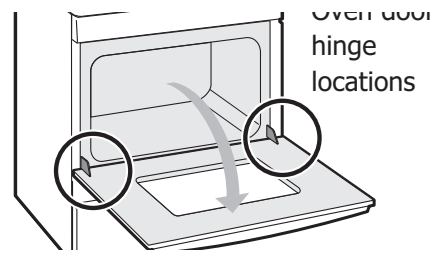

Figure 21: Door hinge location
1. Open oven door completely, horizontal with floor (See Figure 21).
3. Fully open the oven door, horizontal with floor (See Figure 21).